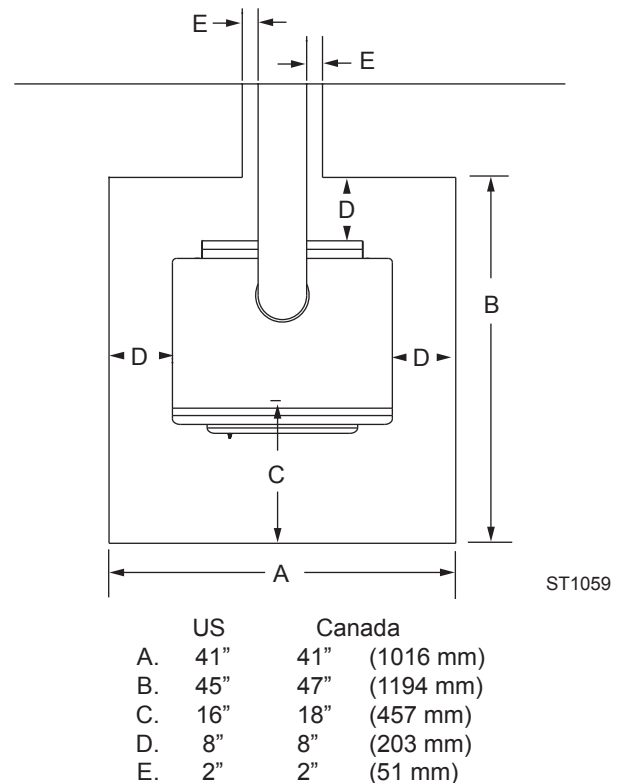

**Figure 10 -
U.S. Installations: The floor protector is required under the stove and must extend at least 16" from the front of the stove, and at least 8" from the sides and rear. *Figure 10*
In Canada: a noncombustible floor protector is required under the heater also. The floor protector must extend 18" (457 mm) from the front of the stove, and at least 8" (203 mm) from the sides and rear. *Figure 10*